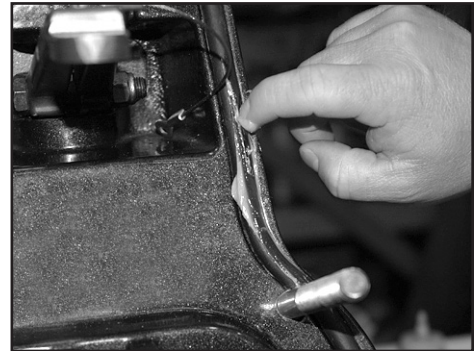

FIGURE 2A
- 2.1 Grease the transom assembly gasket with marine grade grease (see Figure 2A).